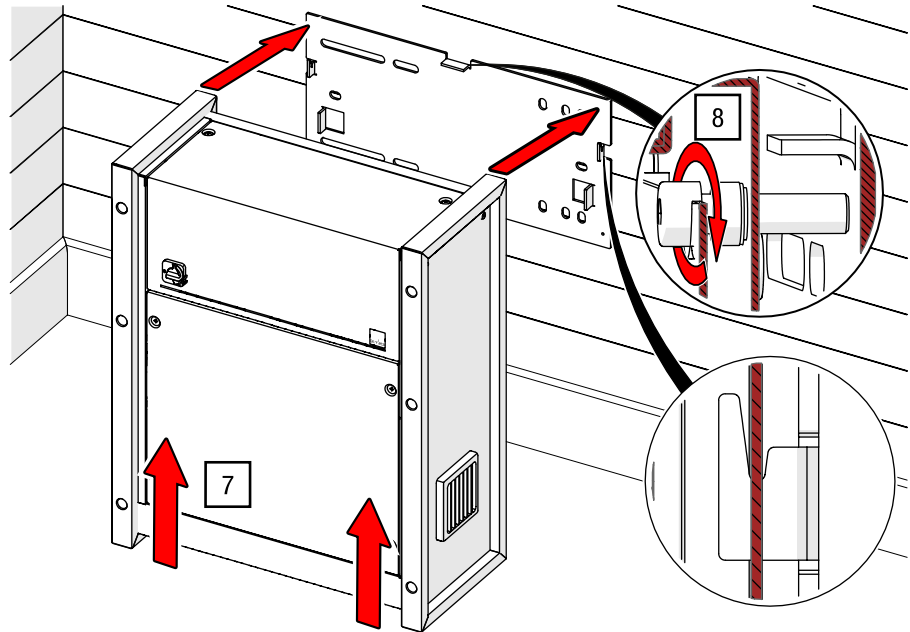

Fig. 32: Securing the control unit to the wall-mounting plate (model may vary)
7. Align the control unit and engage it into the hooks on the wall-mounting plate using the slots on the rear (see Fig. 32).
8. Lift the control panel and secure the control unit with an M8 × 30 socket head capscrew (see Fig. 32).